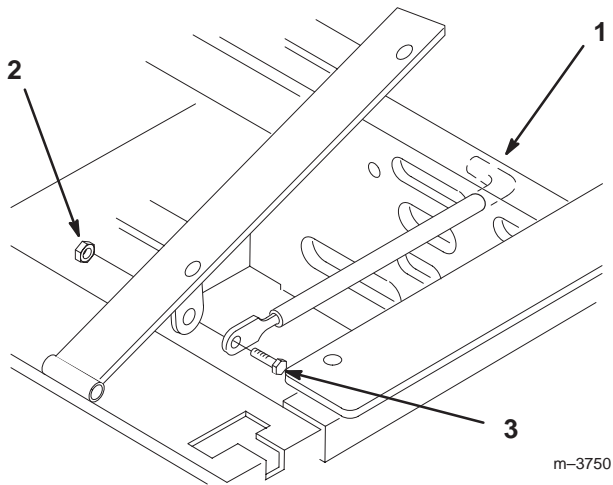

Figure 3
1. Tilt the seat up. Remove the locknut (5/16 in.) from the bolt attaching the seat retaining rod to the seat frame (Fig. 3).
2. Remove the retaining rod from the seat and insert the "L" shaped end of the rod into the hole directly above the left-side hydraulic pump (Fig. 3).
3. Place the seat retaining rod to the outside of the mounting tab of the seat frame and secure it with the bolt (5/16 x 1 in.) and locknut (5/16 in.) (Fig. 3).